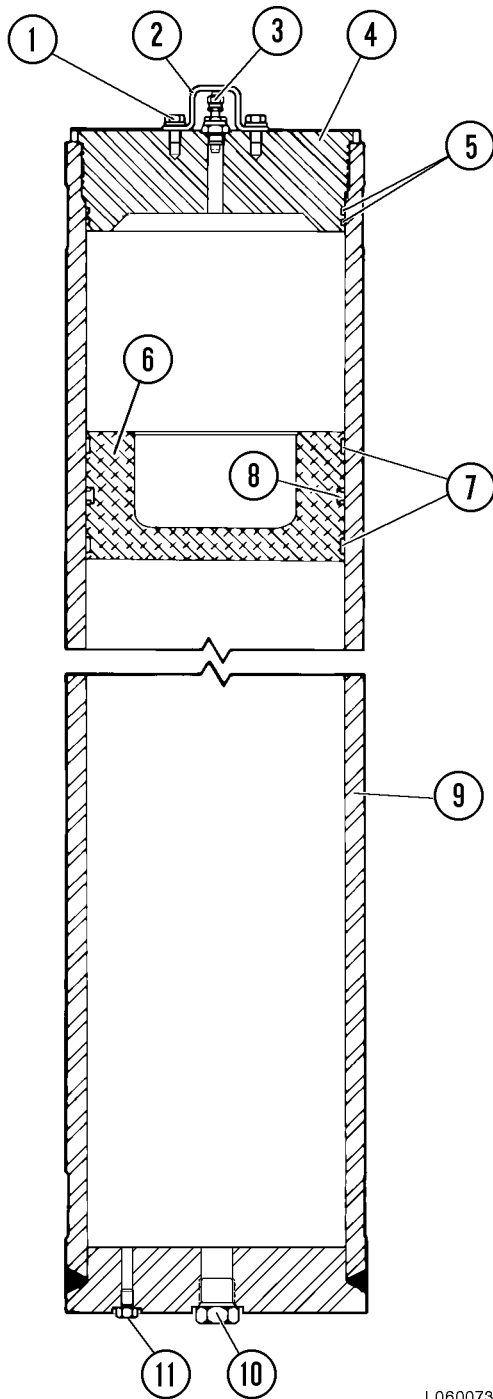
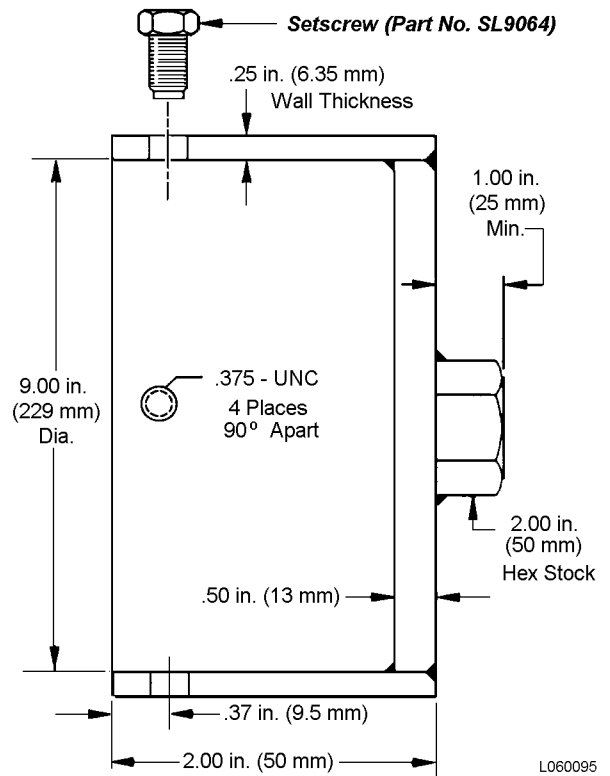

FIGURE 6-4. ACCUMULATOR ASSEMBLY
FIGURE 6-5. GLAND REMOVAL TOOL (Fabricate Locally)
1. Remove charging valve (3, Figure 6-4).
2. Remove gland (4).
*Note: Figure 6-5 illustrates a tool that can be fabricated locally to aid in removing the gland.*
3. Remove plugs and/or adaptor (10 & 11). Using a round rod, push piston (6) out of accumulator.
4. Remove piston rings (7) and seal (8).